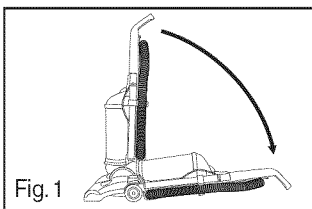

Fig. 1
- Step on handle release to lower handle flat onto floor (Fig.1).